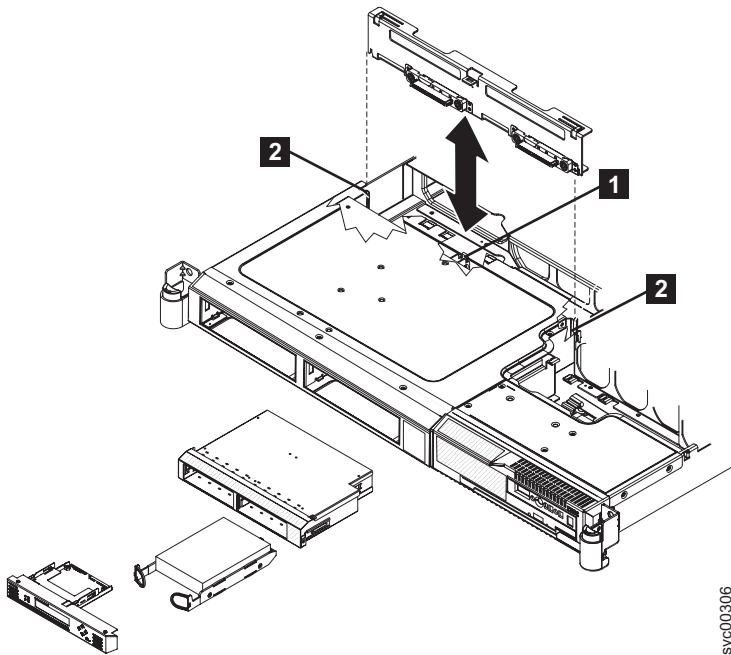

Figure 127. The SAN Volume Controller 2145-8G4 SATA disk drive and backplane
2. Slide the backplane into the mounting channels **2**, which are shown in Figure 127 on page 138, making sure not to trap or pinch any nearby wires or cables.